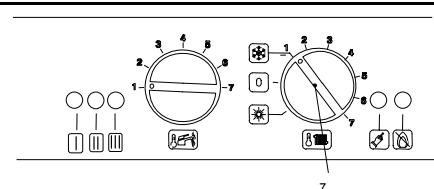

Fig. 6.6
- Make sure that the function switch 7 is set to the position in Fig. 6.6 and that the timer selector switch and room thermostat, if fitted, are set to heat demand".